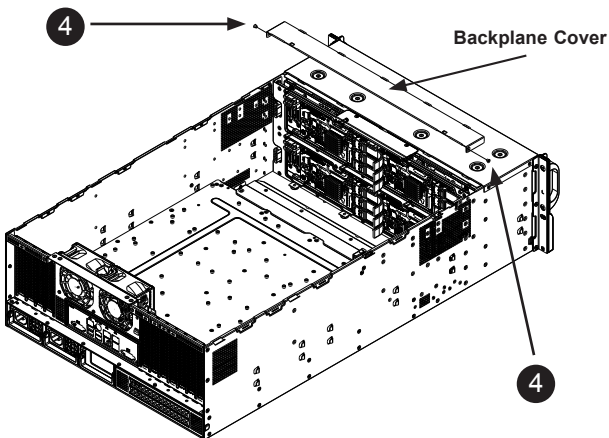

Figure 4-39: Removing the Backplane Cover
6. Replace the backplane cover. (Figure 4-39)